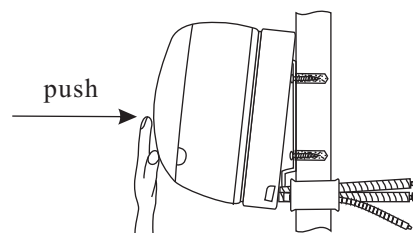

Figure 3
4. Push the bottom of the fan coil (part 3 and 4) towards the wall (Figure 3) in order to engage the locking clips (part C and D)